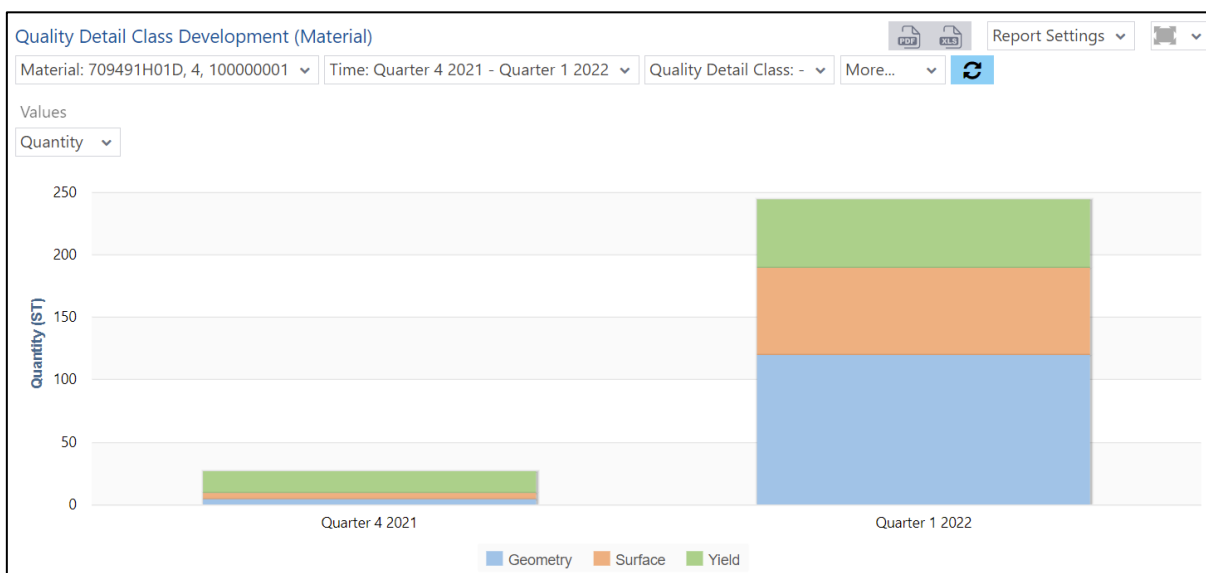

Fig. 127: Quality detail class development (material) as bar chart
- Quality detail class development (development per material) as a column chart (fig. 127): Quality detail classes with percentage of total quantity as bars. Each bar represents the quality detail classes for a selected time period (week, month, year, etc.).